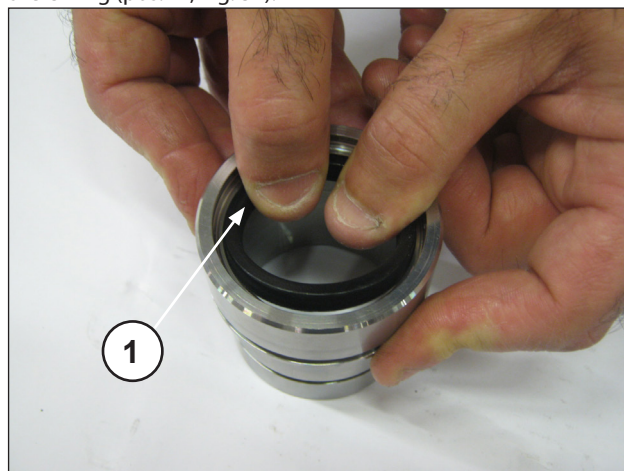
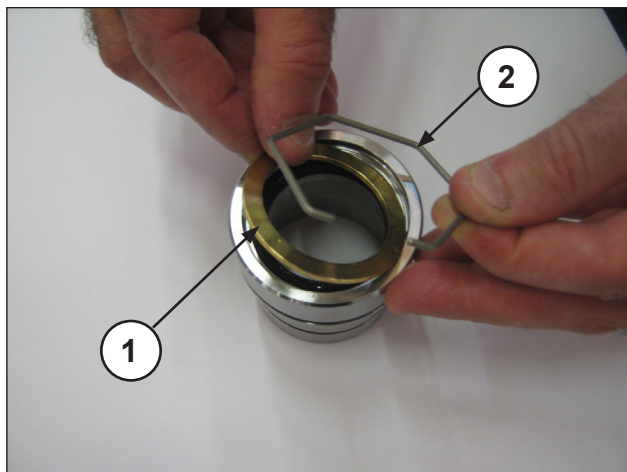
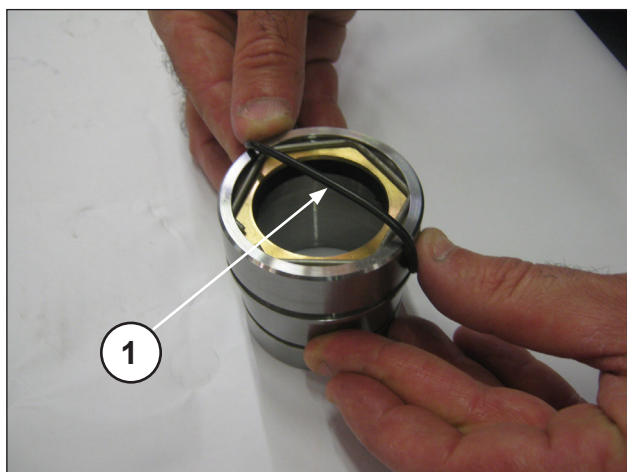

Fig. 29
Fig. 30
Fig. 31
Insert the low pressure seal in the packing support (pos. ①, Fig. 29) paying attention to the mounting direction which requires that the sealing lip be set forward (towards the head). Then insert the seal ring, retaining ring (pos. ①②, Fig. 30) and the O-ring (pos. ①, Fig. 31).